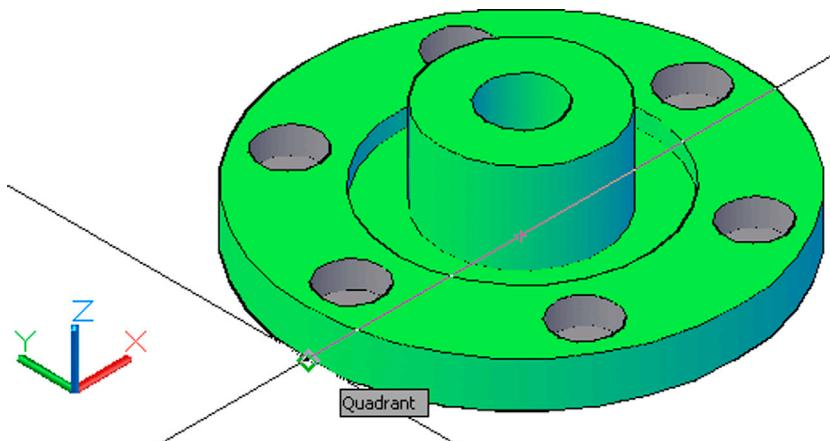

FIGURE 27.3 Select anchor point for plane slice.
Step 3. We use the planes as a slicer. If your UCS is in the standard (World) configuration (as seen in Fig. 27.3), then select ZX as the plane.
Step 4. Here, you just need to pick a point where you want the plane to start. It is infinite in both planar directions, so you are just locating an anchor point. Using OSNAPs, select the lower left quadrant (also seen in Fig. 27.3).